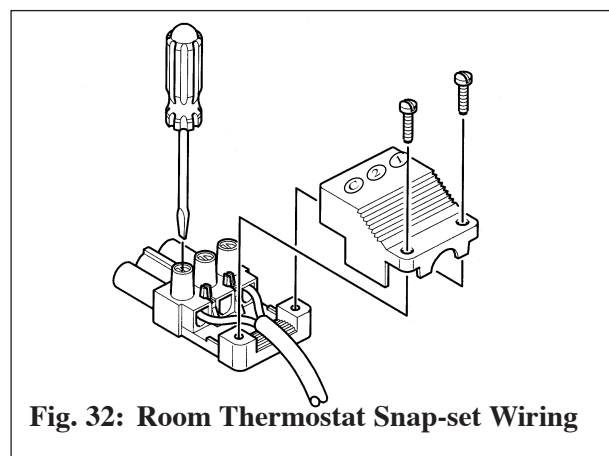

Fig. 32: Room Thermostat Snap-set Wiring
2. Remove the snap-set cover and connect the thermostat wiring to terminals C and 1 per Figure 32.